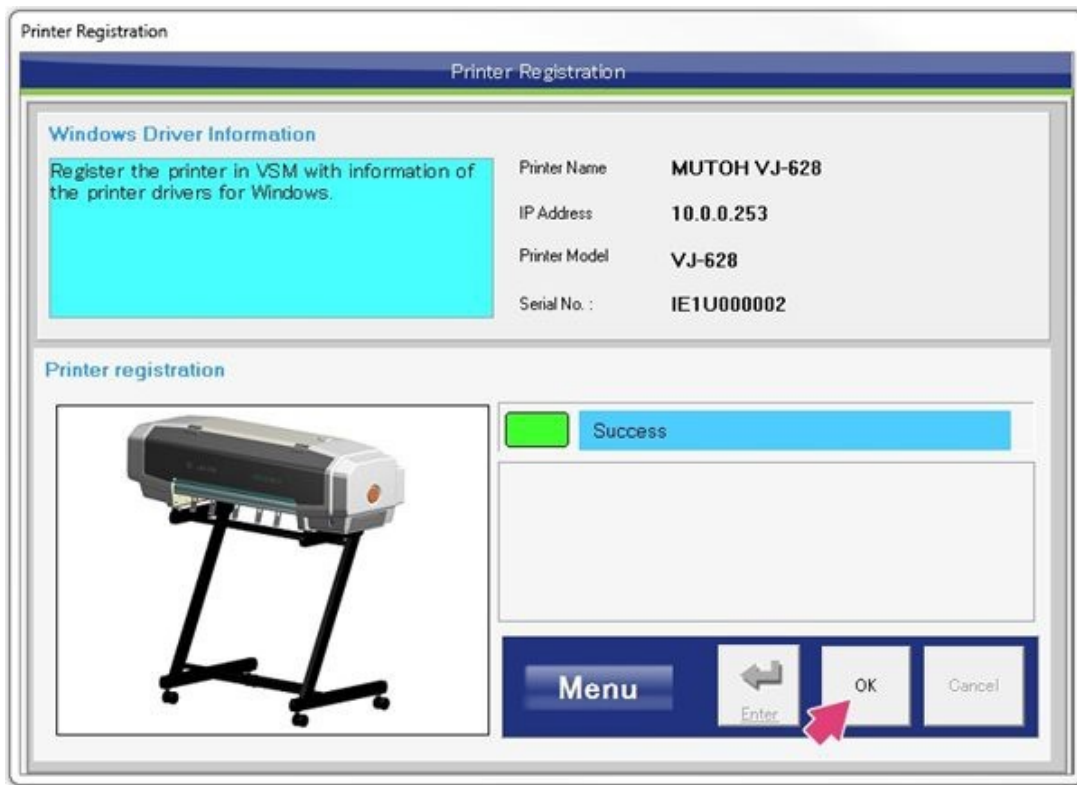

Figure 104
91. Select **OK**. See Figure 104.